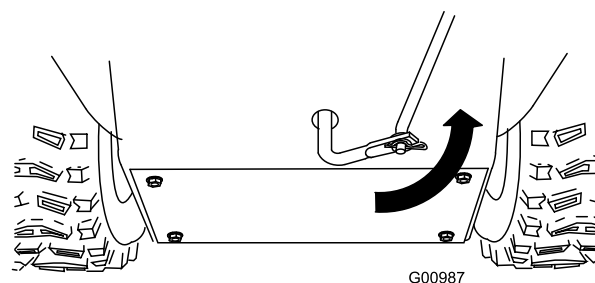

Figure 4
7. Rotate the lower link arm up (Figure 4).